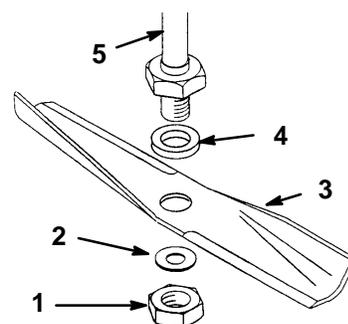

Figure 33
1. Hold the blade end using a rag or thickly padded glove. Install the blade, flat washer, and the blade bolt (Fig. 33).